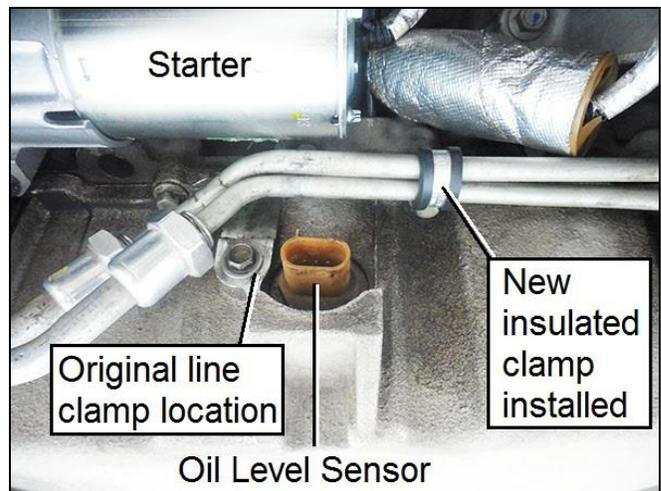

Figure 2
3. Remove the line clamp at the oil pan below the starter and next to the oil level sensor (**Figure 2**).
4. Unplug the oil level sensor (**Figure 2**).
8. Install the insulated clamp around the cooler lines and attach the clamp to the oil pan bolt (**Figure 2**).
9. Adjust the lines after the clamp is installed for clearance at the starter and the bellhousing (**Figures 2 & 3**).